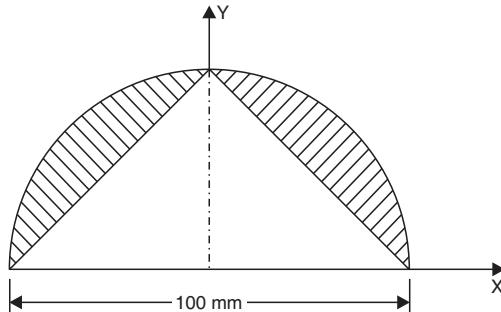

Fig. 7.50
13. A semicircle of diameter  $100 \text{ mm}$  is drawn on a paper sheet. A triangle with diameter of the semicircle as base is cut out of the semicircle as shown in Fig. 7.50.